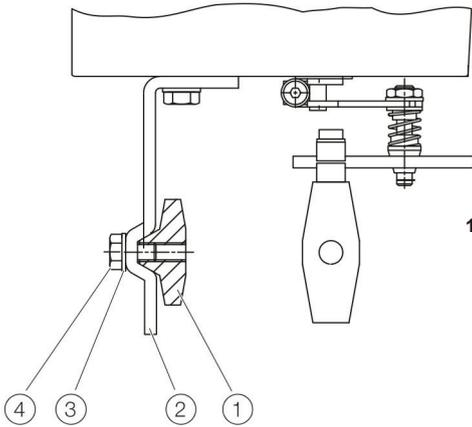
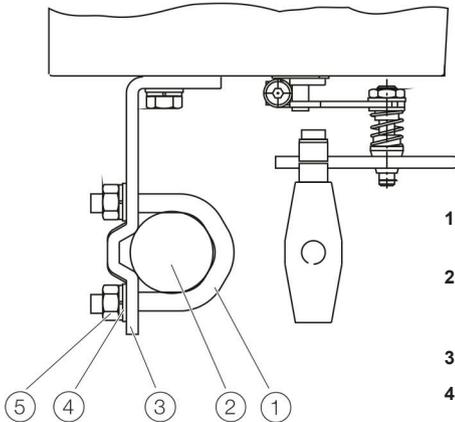

Fig. 7
Fig. 8
Set the valve mid stroke and align the lever horizontal (item 4 fig. 7).
Then tighten mounting bolt (item 4 fig. 7) (lever moves between the arrow marks item 4 fig. 8).